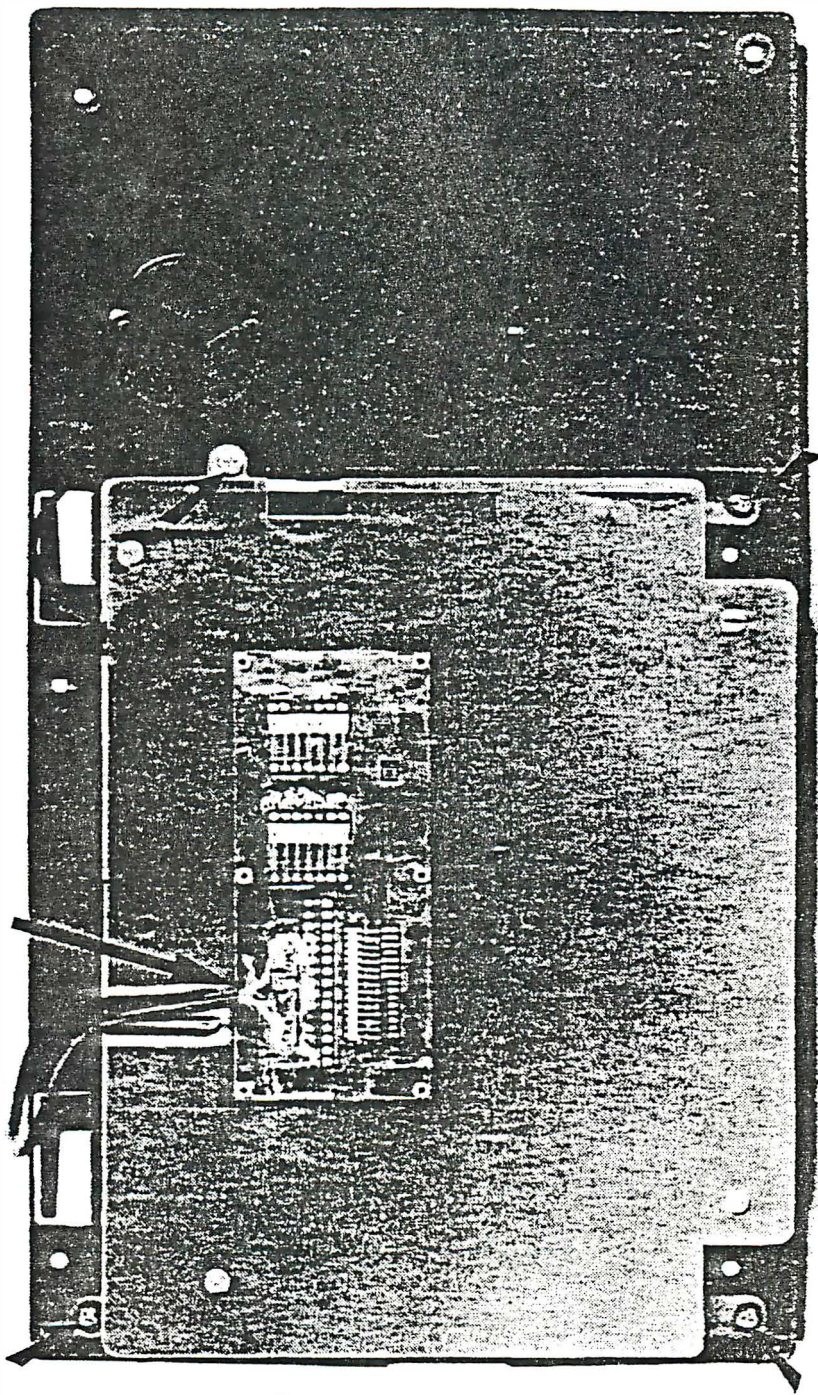
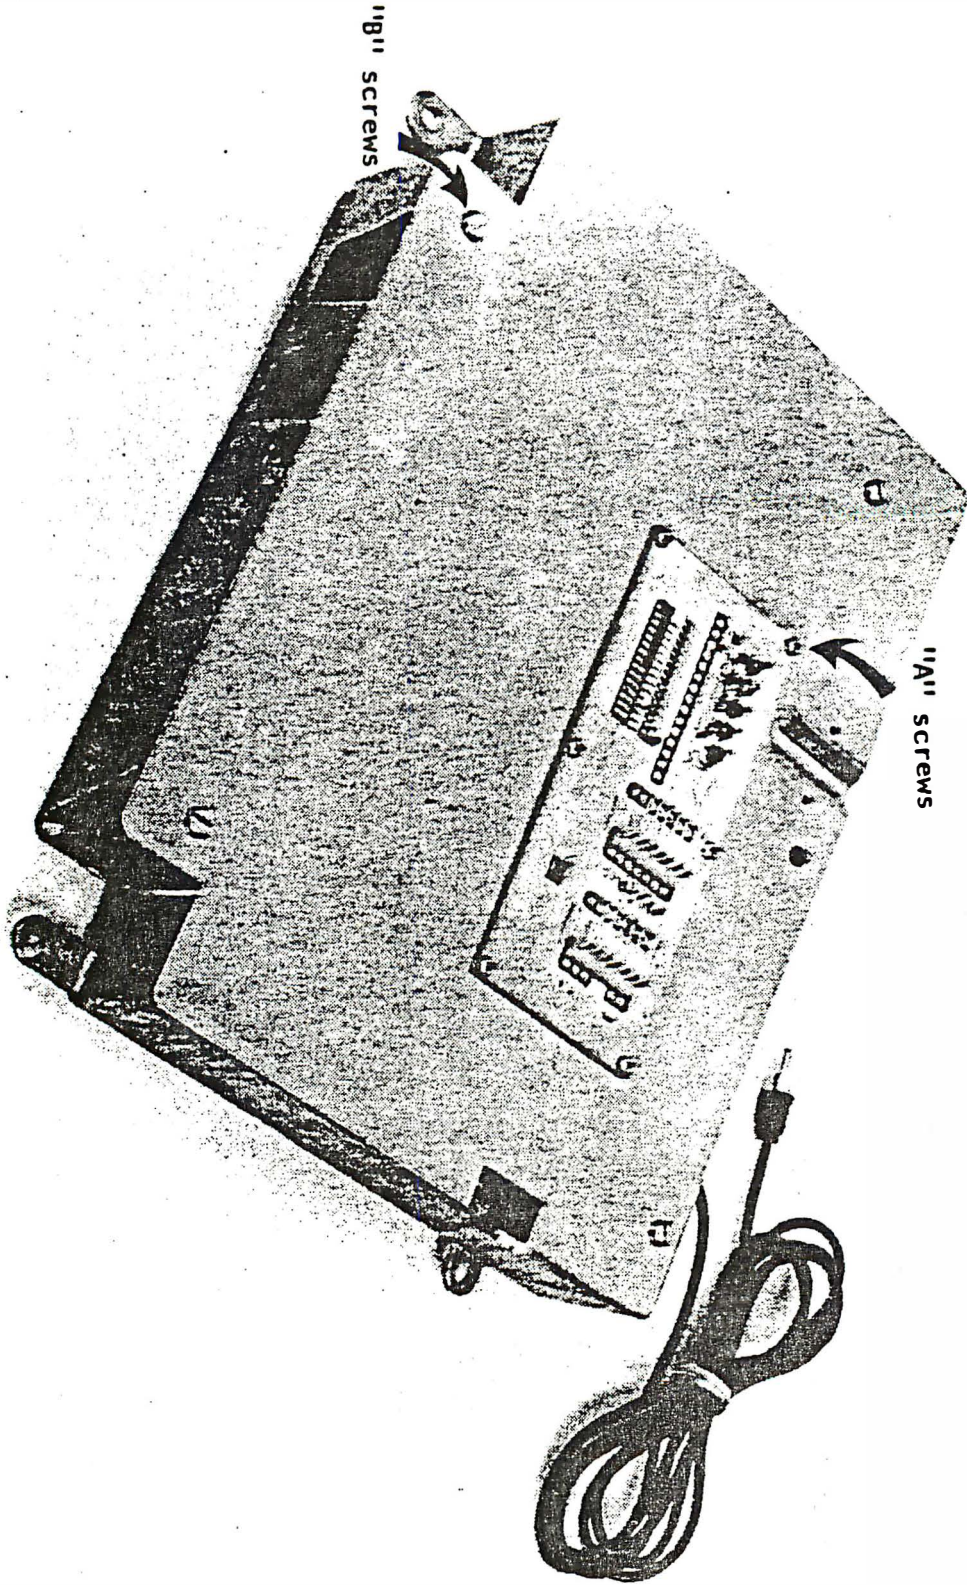

FIGURE 9--Lower Assembly
FIGURE 10--Main Electronics Sub-assembly
8. Main electronics sub-assembly (Figure 10)
2. Remove each of the five (5) wires on the AC adaptor cord shown in Figure 9.
2. Remove the four (4) screws shown in Figure 9 and lift the Main Electronics Sub-assembly out of the lower assembly. (See Figure 10.)
1. After following the disassembly procedures of sections 1 through 5, certain further repairs can be made by factory authorized service centers. These repairs require removal of the metal top plate from the Main Electronics Sub-assembly shown in Figure 10. The following procedure must be followed for proper removal of top plate:
- A. First remove the six "A" screws shown in Figure 10.